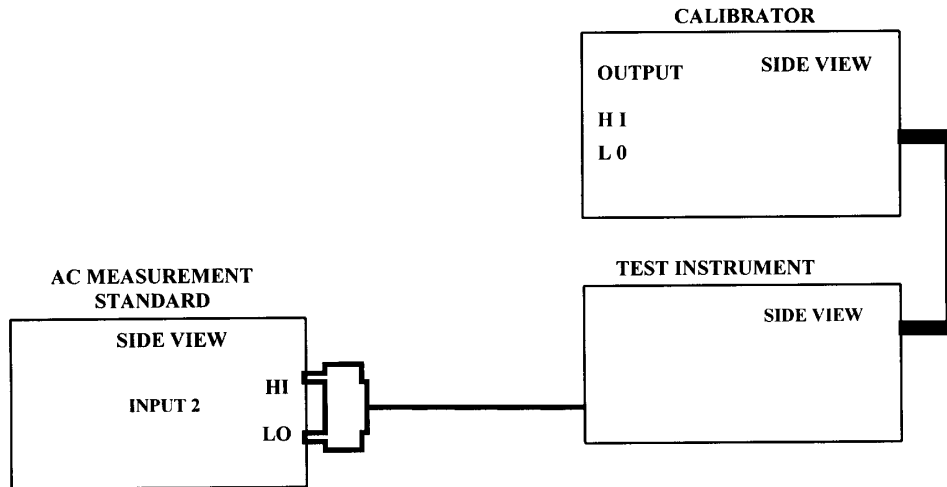

Figure 17. High voltage.
(1) Connect equipment as shown in figure 17. Press **INPUT 2** pushbutton on ac measurement standard.